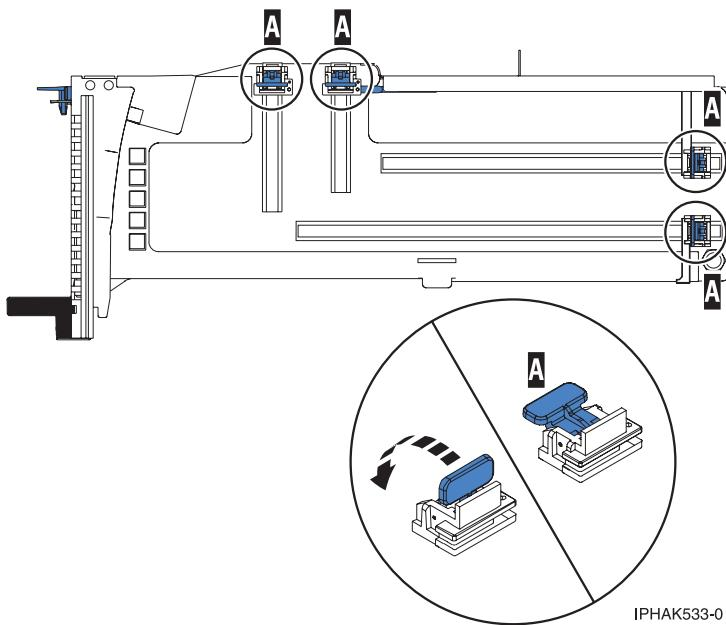

Figure 133. Adapter retainers
- b. Ensure that all of the adapter retainers (**A**) have been pushed out to the edges of the cassette to allow the placement of the adapter. See Figure 133 on page 149.